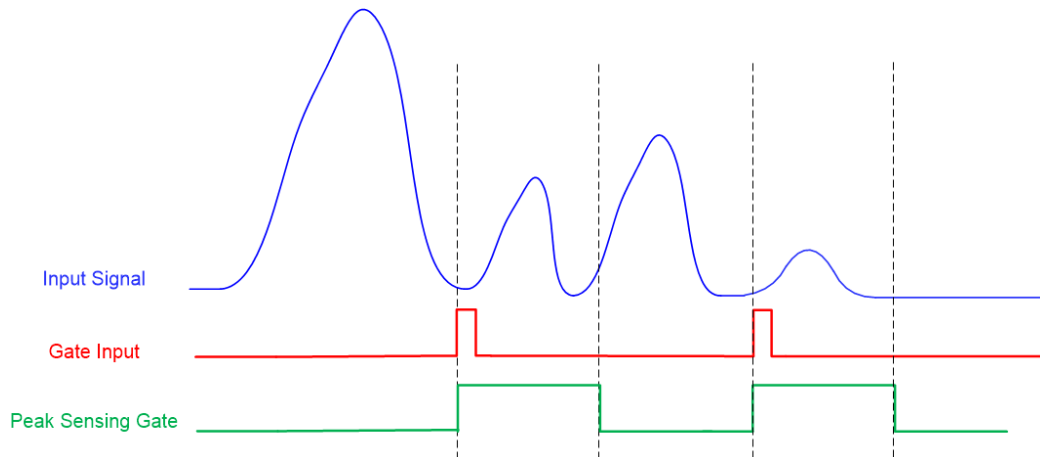

Figure 8.3: Edge mode acquisition: the gate width is defined via 0x8020 register [RD1]
- **edge mode** (edge sensitive): the gate starts with the leading edge of the GATE signal and lasts for a user programmable time, that can be set through register 0x8020 [RD1] (see **Figure 8.3**).